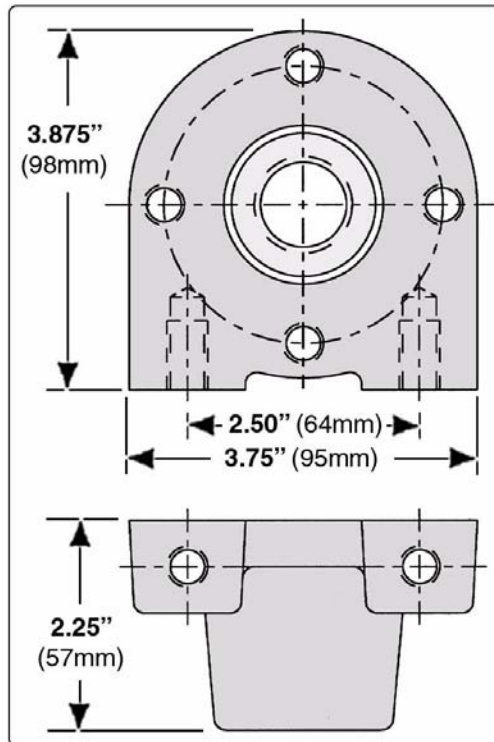

Figure 3-7: Universal Mount Adapter Dimensions
3. Drill two $\frac{29}{64}$ " (12 mm) holes 2-1/2" (64 mm) apart to attach the universal mounting adapter to a secure point on the apparatus. (See Figure 3-7: "Universal Mount Adapter Dimensions.")